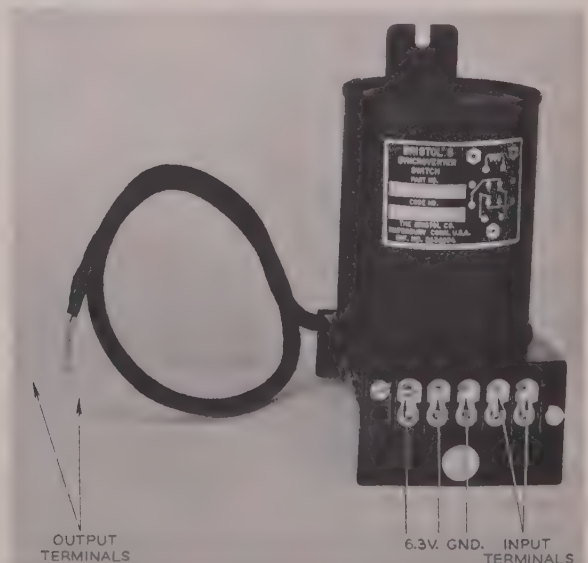

FIGURE 12. SYNCROVERTER SWITCH
5. Syncroverter® Switch. (See Fig. 12) With the push button on Dynaprobe depressed to provide a d-c signal, apply test prongs to input terminals of Syncroverter switch (orange and brown wires). If Syncroverter switch is functioning correctly, the balancing motor will move the pen up or downscale (depending upon phase). Reversing the test prongs will cause the balancing motor to move the pen in the opposite direction. If the balancing motor does not move the pen up or downscale, disconnect the orange and brown wires from Syncroverter switch and check again with the test prongs. If the balancing motor still does not move the pen up or downscale with this test, the Syncroverter switch is defective and should be replaced.